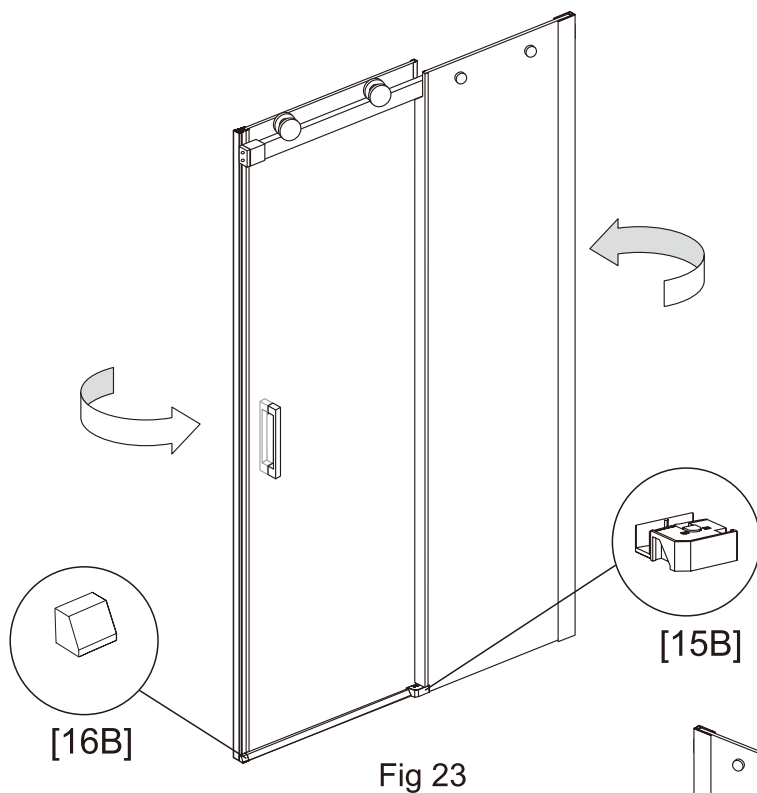

Fig 23
1. To install the **Door Panel [09]** on the left: Use **Bottom Guide [15B]** and **Seal [16B]** (Fig 23).